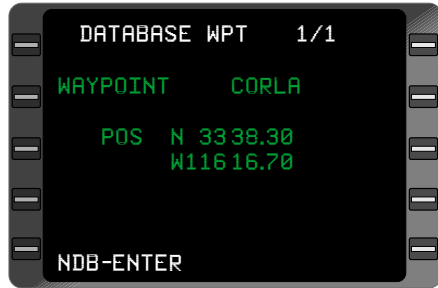

Figure 3-174
- a. Waypoint Page Coordinates - VERIFY Database Waypoint or INSERT Waypoint Data. (Figure 3-174)